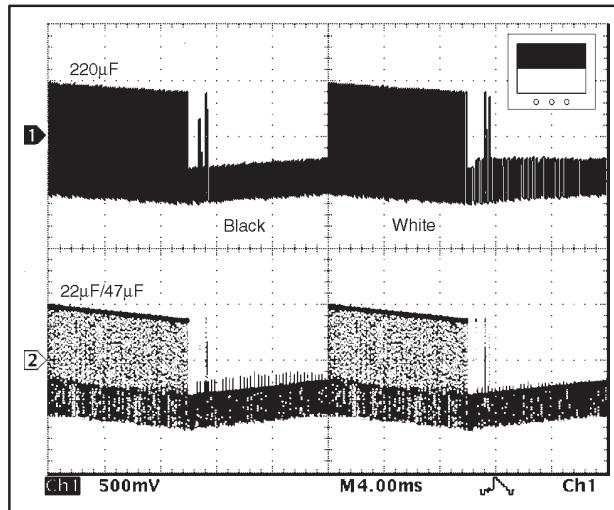
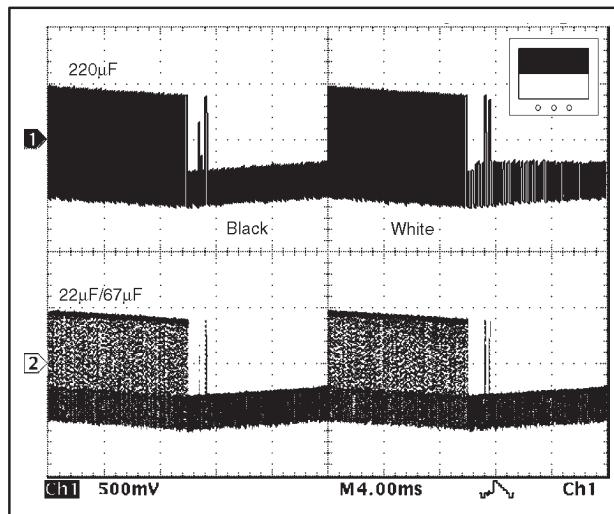

Figure 10. Standard Video Circuit with $220\mu\text{F}$ Capacitor (top trace) vs OPA360 with $22\mu\text{F}$ and $47\mu\text{F}$ Capacitors
Figure 11. $220\mu\text{F}$ Standard Video Circuit (top trace) vs OPA360 with $22\mu\text{F}$ and $67\mu\text{F}$ Capacitors
c. Test circuits for Figures 10 and 11.
To achieve good performance, a $22\mu\text{F}$ sag correction and $47\mu\text{F}$ coupling capacitor can be used. Figure 10 and Figure 11 show comparisons for a standard video circuit with a $220\mu\text{F}$ coupling capacitor and the OPA360 with sag correction.
Figure 10 shows that the $22\mu\text{F}/47\mu\text{F}$ combination leads to only a slightly greater tilt in the 50Hz, 1/2 black – 1/2 white video signal. No degradation in video quality is observed.
A field tilt equivalent to that achieved using the standard $220\mu\text{F}$ coupling capacitor can be achieved with a $22\mu\text{F}/67\mu\text{F}$ combination – see Figure 11. These capacitor values are optimized—sag correction capacitors larger than $22\mu\text{F}$ do not provide significant improvement. Smaller sag correction capacitors will lead to higher tilt.